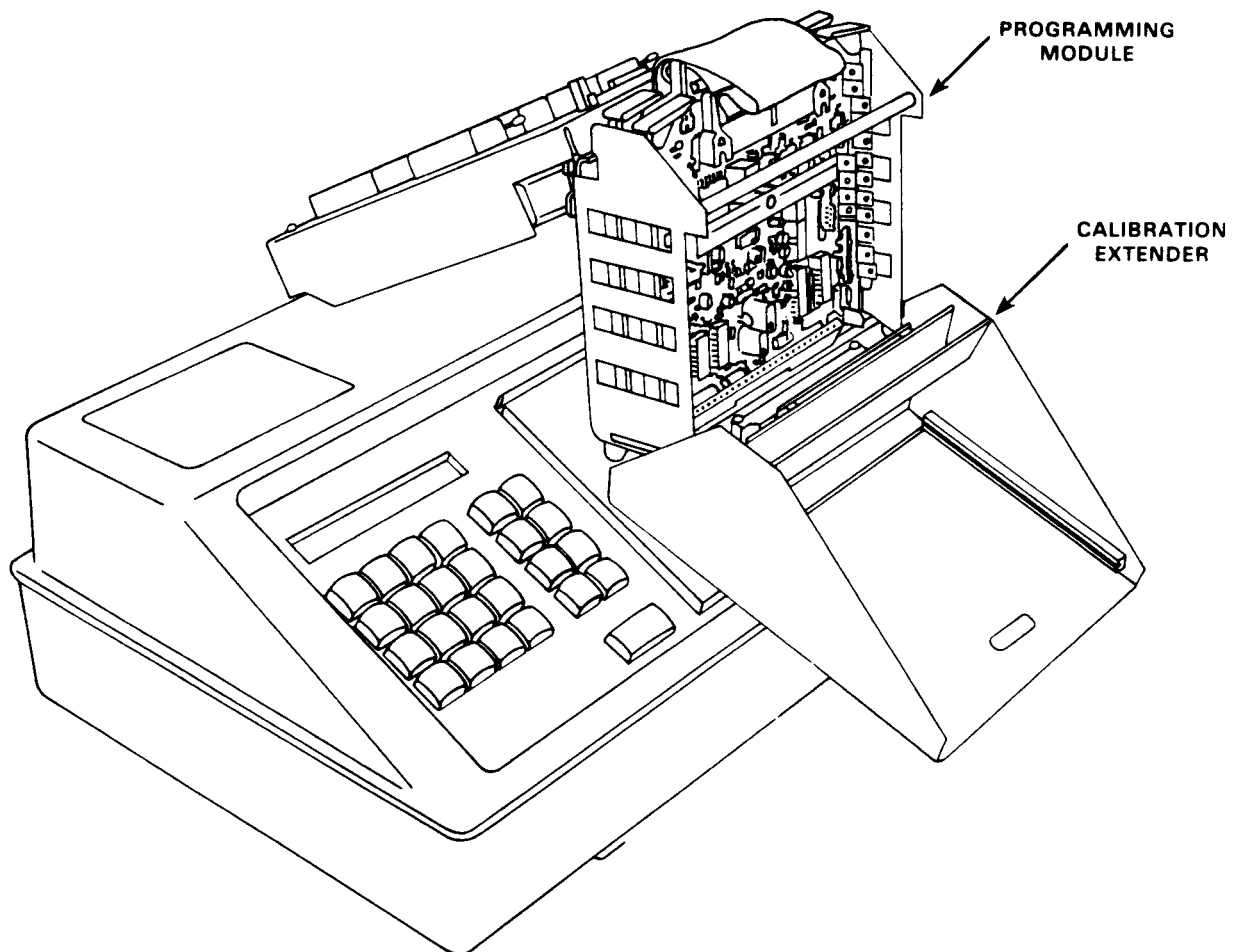

Figure 4-4. 29A with Programming Module Prepared for Calibration
1. Set up the programmer and the programming module as shown in Figure 4-4, and turn the programmer power on.